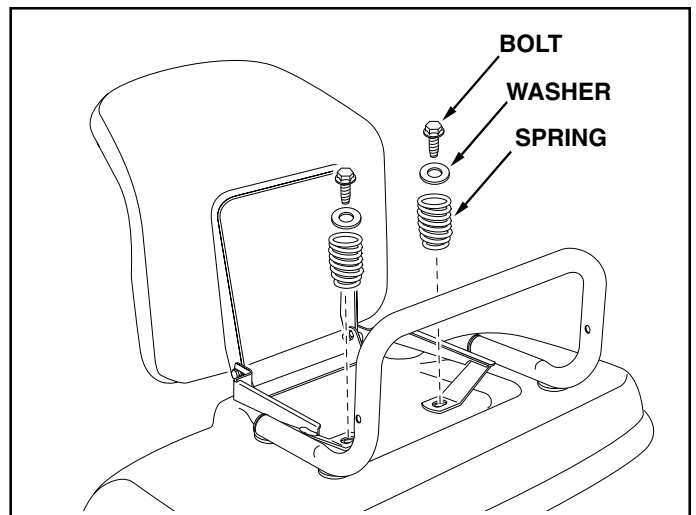

FIGURE 4
- Reassemble the seat springs on top of the base assembly's bottom brackets using the bolts and washers that you removed. Tighten securely, but do not to overtighten. See figure 4.